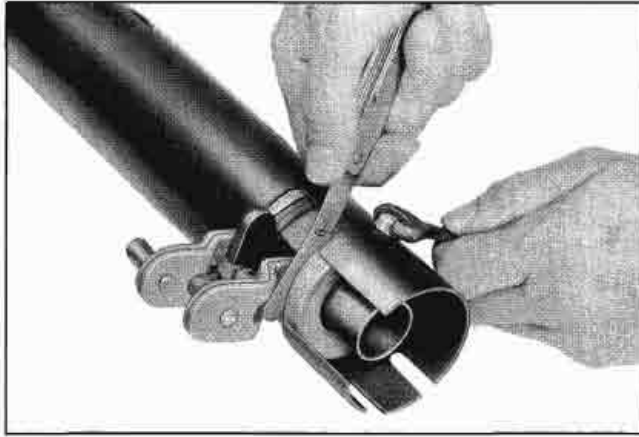

Fig. 7-25 Adjusting Lower Bearing
8. Rotate lower bearing and adjust to obtain .012" maximum end play (Fig. 7-25).